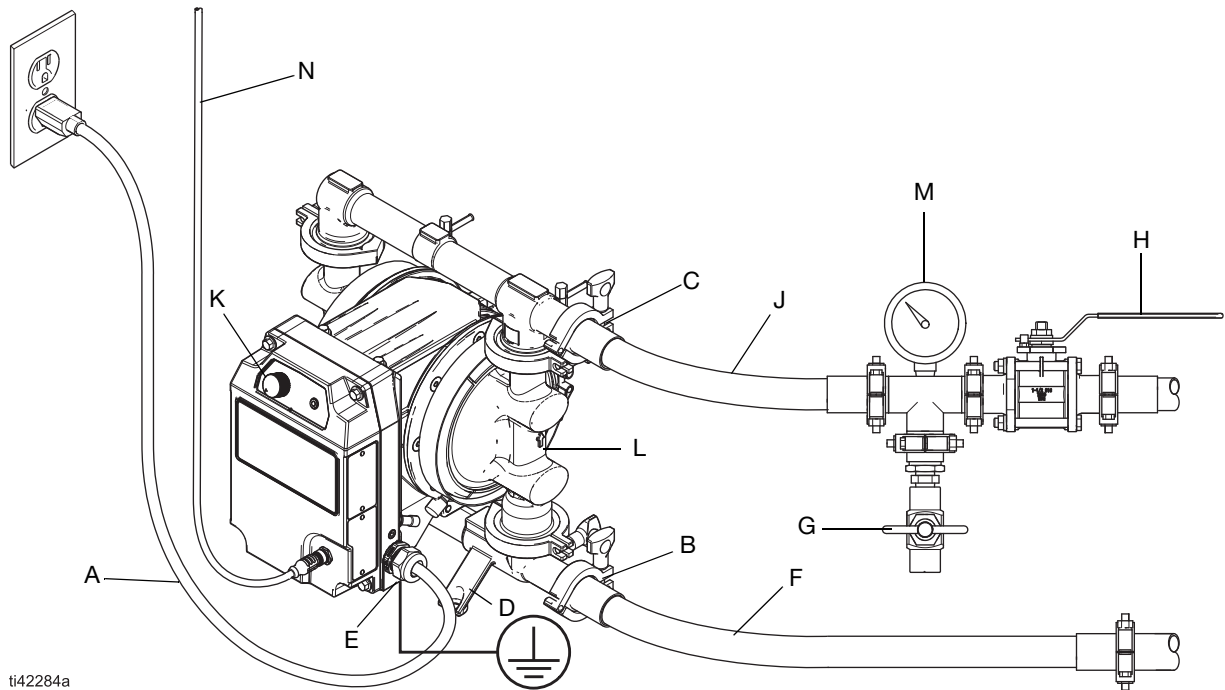

FIG. 3: Typical Installation for Models in Ordinary Locations (cord and plug connection) (h30 (QHC) model shown)
Typical installations are shown in FIG. 3 and FIG. 4. The figures are only guides for selecting and installing system components. Contact your local distributor for assistance in planning a system to suit your needs.
NOTE: For proper priming, ensure the fluid outlet port (C) is mounted higher than the fluid inlet port (B). See FIG. 3 and FIG. 4.
2. Install a fluid drain valve (G) near the fluid outlet. See FIG. 3 and FIG. 4.
Install the following accessories in the order shown in FIG. 3 and FIG. 4, using adapters as needed.